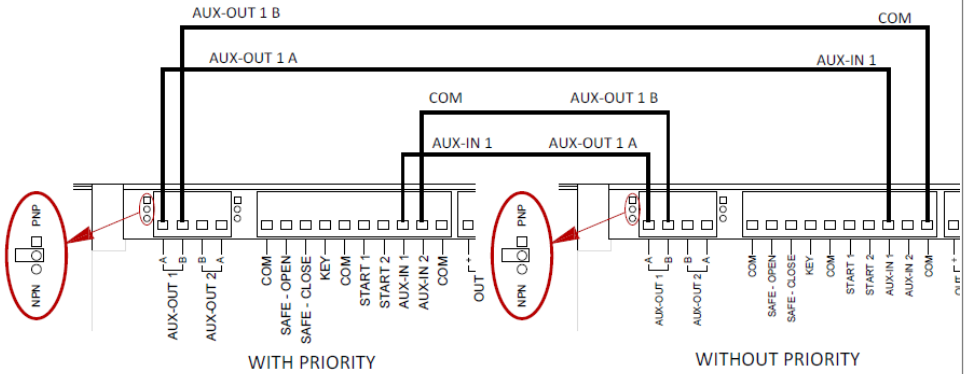

Fig.35
**ATTENTION:** Disconnect jumper near AUX OUT-1 both on board with priority and board without priority (Fig. 35).